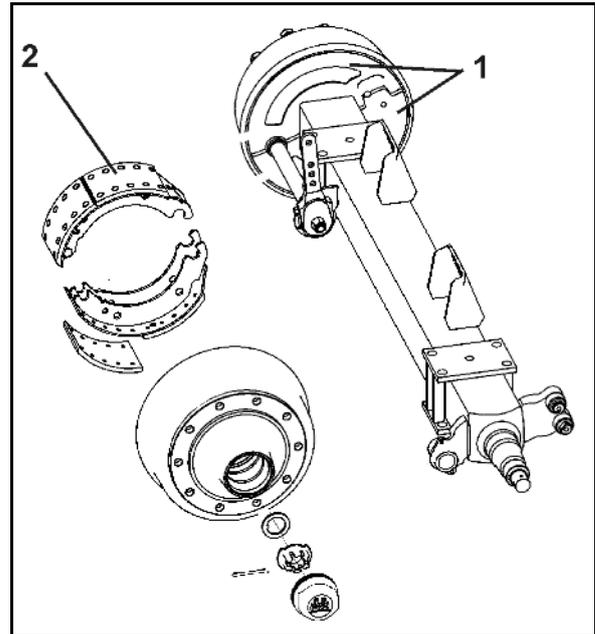

Fig. 118
1. Unscrew the two cover plates (Fig. 118/1) on the inside of the brake drum.
Dirt entering the drums may be deposited on the brake pads (Fig. 118/2) and thus appreciably reduce brake performance.